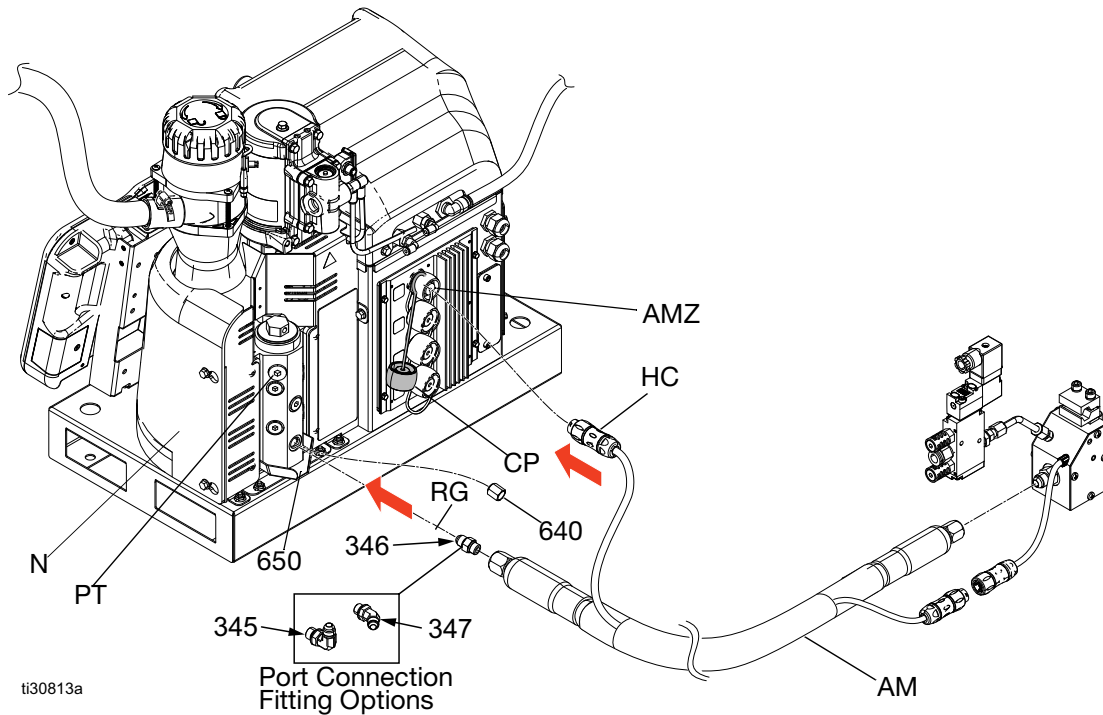

FIG. 2:
- a. Remove the cap (CP) from the AMZ electrical connector and install the hose electrical connector (HC).
5. Repeat the previous step for all remaining hoses. See FIG. 2 page 12.